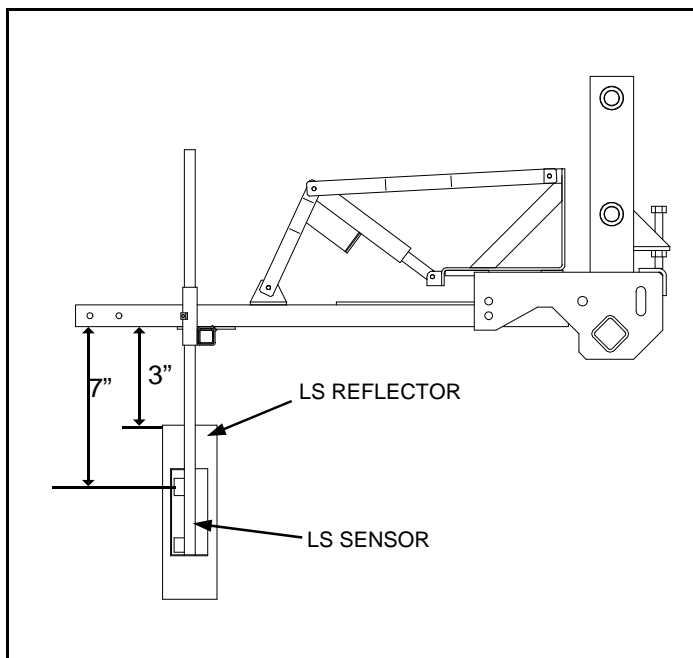

FIG 4.24
6. With a tape measure, set the center of the top Tasselrol® sensor to a depth of seven inches (fig. 4.24). Set the top edge of reflector to three inches (fig. 4.24).